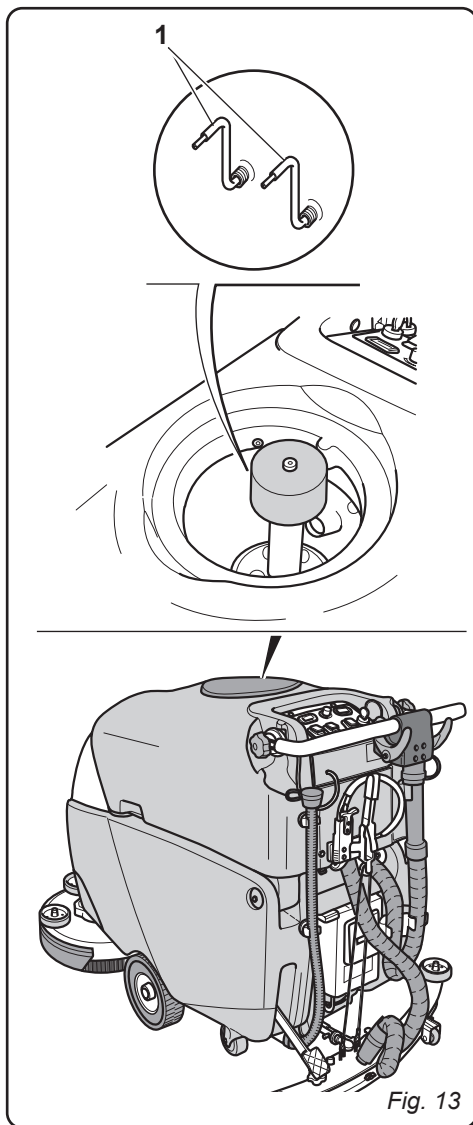

Fig. 13
- Turn the key (12) to its "0" position to shut off the machine.
8.1.e - Maximum recovery tank water level alarm (Fig. 13)
8.1.f - Probe height (Fig. 13)